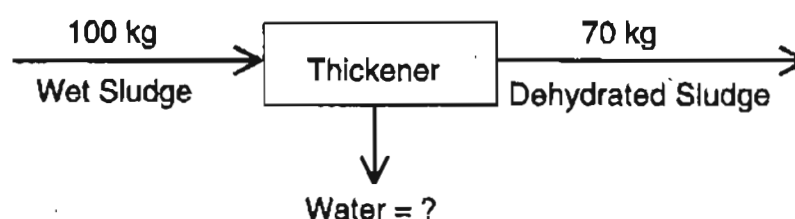

Figure P6.21
- *6.21 A thickener in a waste disposal unit of a plant removes water from wet sewage sludge as shown in Figure P6.21. How many kilograms of water leave the thickener per 100 kg of wet sludge that enter the thickener? The process is in the steady state.